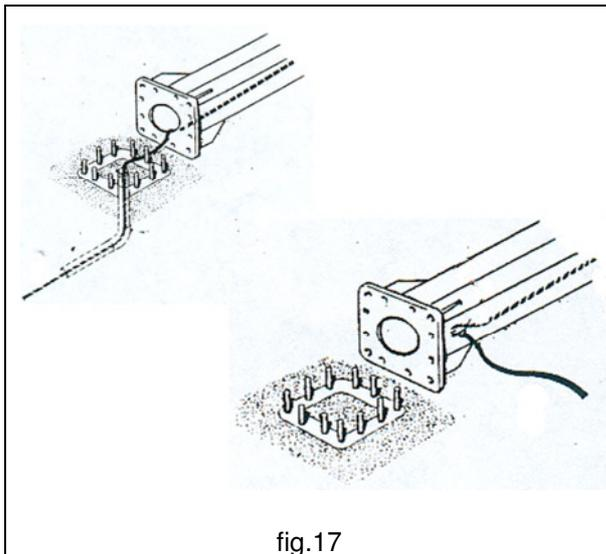

fig.17
2. Insert the electrical cable inside the column and have it exit from the access and inspection door to the collector ring. Perform the operation with the column on the ground. (fig.17).